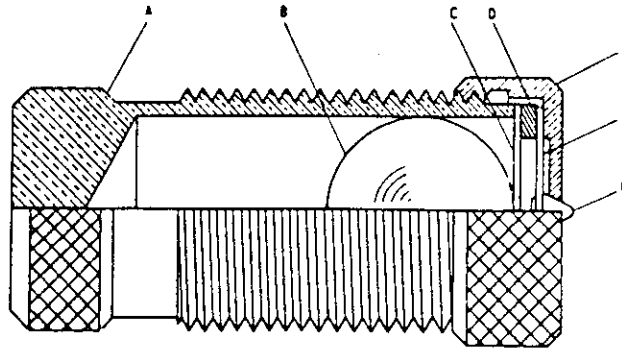

Fig. 14 Contact Assembly for the Directional and the Instantaneous Overcurrent Units
The contacts Fig. 14, are especially constructed to suppress bouncing. The stationary contact (G) is mounted on a flat spiral spring (F) backed up by a thin diaphragm (C). These are both mounted in a slightly inclined tube (A). A stainless steel ball (B) is placed in the tube before the diaphragm is assembled. When the moving contact hits the stationary contact, the energy of the former is imparted to the latter and thence to the ball, which is free to roll up the inclined tube. Thus, the moving contact comes to rest with substantially no rebound or vibration. To change the stationary contact mounting spring, remove the contact barrel and sleeve as a complete unit after loosening the screw at the front of the contact block. Unscrew the cap (E). The contact and its flat spiral mounting spring may then be removed.